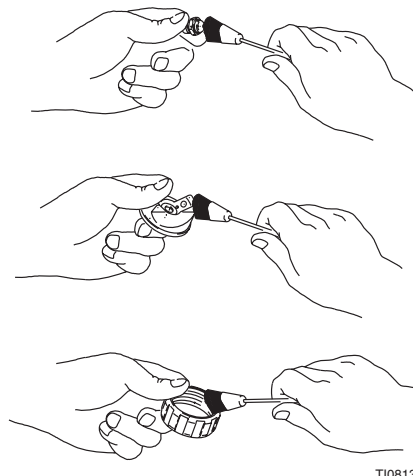

**FIG. 19**
- 6 With gun pointed down, clean front of gun using a soft-bristle brush and solvent. Fig. 19.